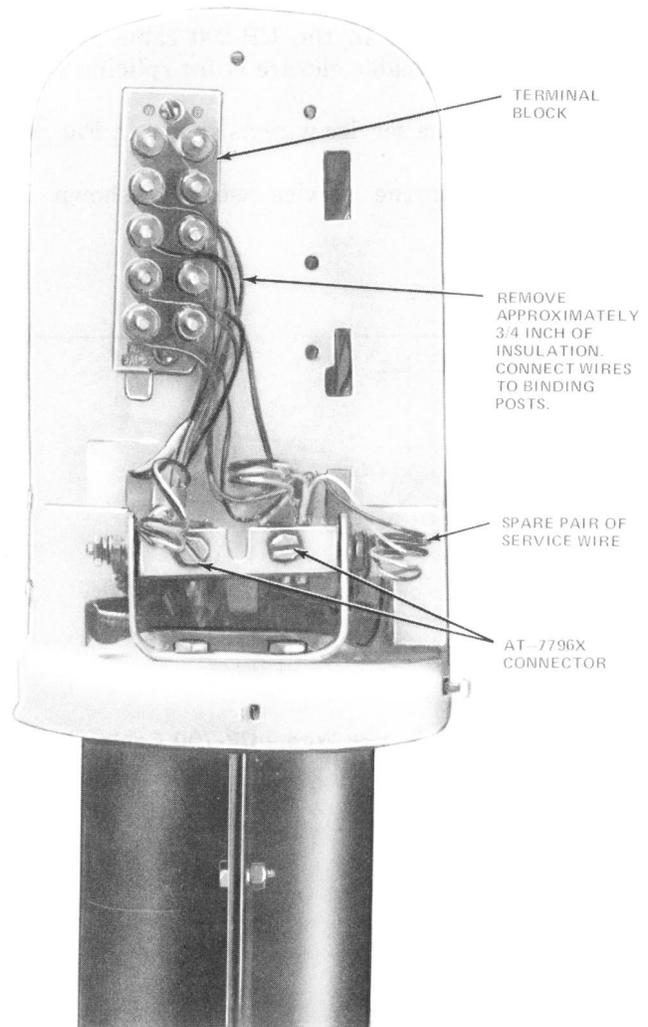

Fig. 31—B Cable Closure Rehabilitation Kit—Unprotected Fixed Count
8.01 The B and D cable closure rehabilitation kits and the E retrofit kits (Fig. 31 through 33) are available for converting the B, D, and E cable closures, respectively, from ready access to either fixed count or preferred count capability. See Section 644-200-032 for additional information on these kits.